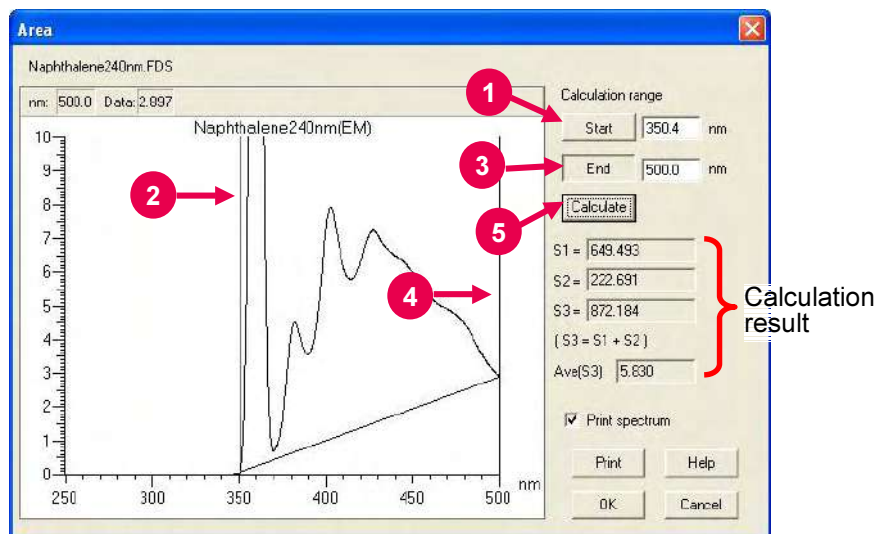

Fig. 7-33
(1) Setting by Moving Cursor
- ① Click the **Start** button. (Refer to ① in Fig. 7-33.)
Move the trace cursor to a desired start wavelength on the spectrum (refer to ② in Fig. 7-33), and then click the right button of the mouse.
- ② Click the **End** button. (Refer to ③ in Fig. 7-33.) Move the trace cursor to a desired end wavelength on the spectrum (refer to ④ in Fig. 7-33), and then click the right mouse button.
- ③ Click the **Calculate** button. The result of calculation will be indicated. (Refer to ⑤ in Fig. 7-33.)